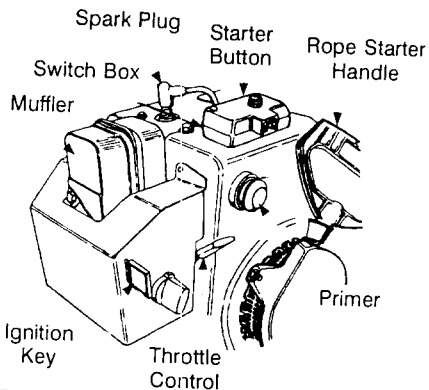

FIGURE 18
- The space between the shave plate and the ground can be adjusted. For close snow removal, place slide shoes in the low position. Use middle or high position when area to be cleared is uneven. See figure 18.
- Move throttle control up to FAST  position. Insert ignition key into slot. See figure 18. Be certain it snaps into place. Do not turn key.
- Push starter button to crank engine. See figure 18. As you crank the engine, move choke knob to FULL choke position.
- Push primer button two or three times. See figure 18.
- Grasp starter handle (see figure 18) and pull rope out slowly, until it pulls slightly harder. Let rope rewind slowly.